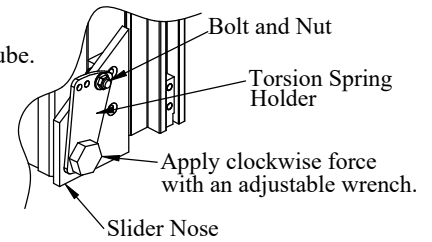

Figure 3: Passenger side torsion spring hardware.
Use Method #3 if the platform is equipped with a torsion spring holder that is the same as the replacement, excluding RF 55-12 (Figure 3).
Use an adjustable wrench (Figure 3).
Continue to hold clockwise torque on the torsion spring holder (Figure 3).
7. **Pull** the passenger side torsion spring holder out of the platform and slider nose (Figure 3).
12. Pull the passenger side torsion spring holder out of the platform and slider nose (Figure 3).